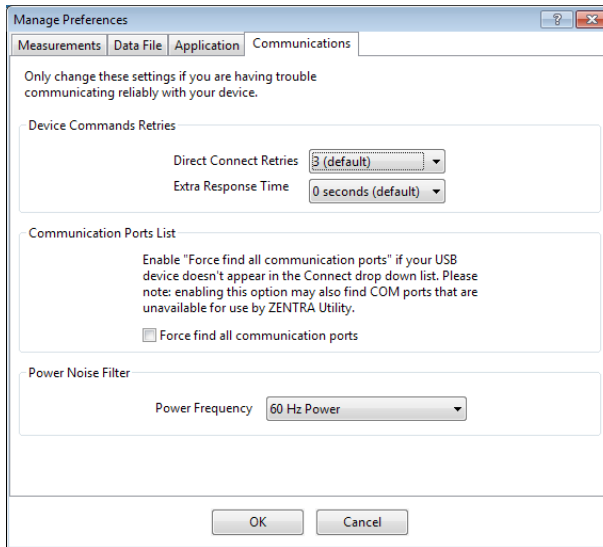

Figure 16 Communications tab
• Communications Tab (Figure 16):